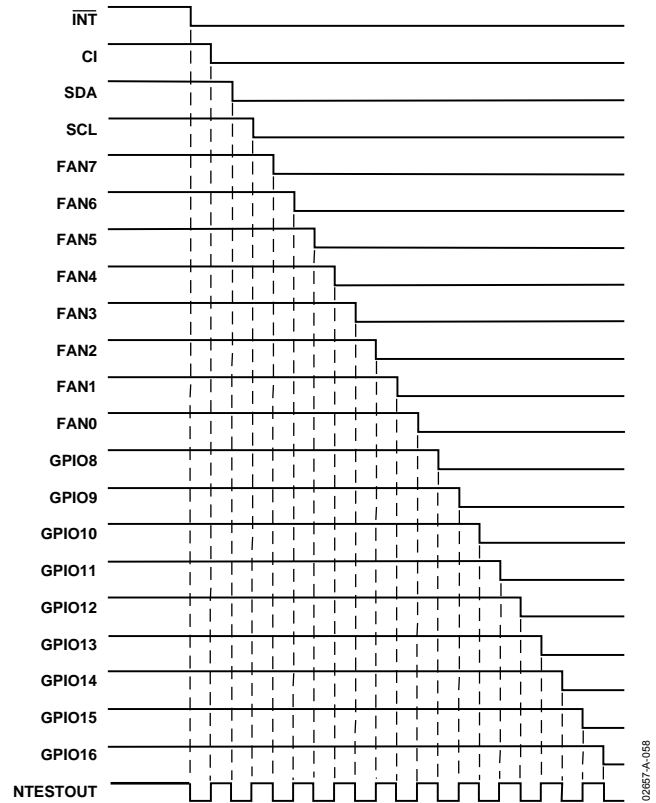

Figure 58. NAND Tree Test Taking Inputs Low in Turn
2. Start with all inputs high and take them low in turn, starting with the input furthest from NTEST\_OUT ( $\overline{\text{INT}}$ ) and working down the tree to the input nearest to NTEST\_OUT (GPIO16/  $\overline{\text{THERM}}$ ). This should give a similar output pattern to Figure 58.